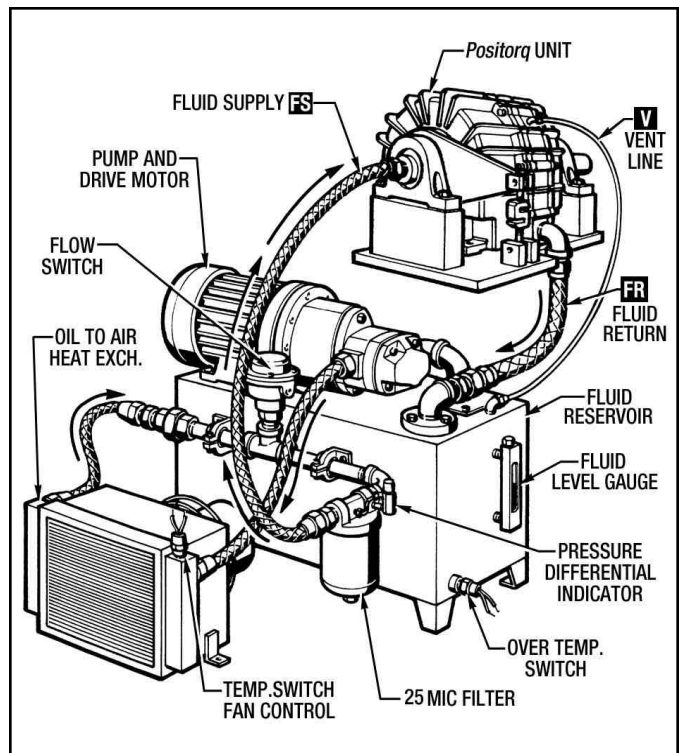

Figure 2.3 - Drive & Air Cooled FLCU Connecting Lines
1. Connect oil supply line from the cooling unit (oil outlet) to the heat exchanger (oil inlet). Connect oil supply line from the heat exchanger (oil outlet) to the drive (oil inlet). (See Figures 2.3 and 2.4)
2. Connect drain line from the drive (oil outlet) to the reservoir (oil inlet). (See Figures 2.3 and 2.4)
3. Connect vent line (when required) from the drive to the reservoir. This line should be elevated to insure that it does not fill with fluid so that air is free to flow back and forth between the drive and reservoir. (See Figures 2.3 and 2.4)